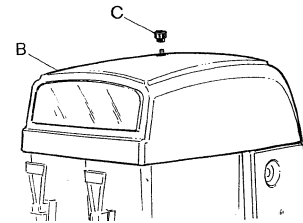

FIGURE 27
2. Remove the cover (B) - FIGURE 27.
- Unscrew the nut (C in FIGURE 27).
- Remove the cover (B in FIGURE 27).